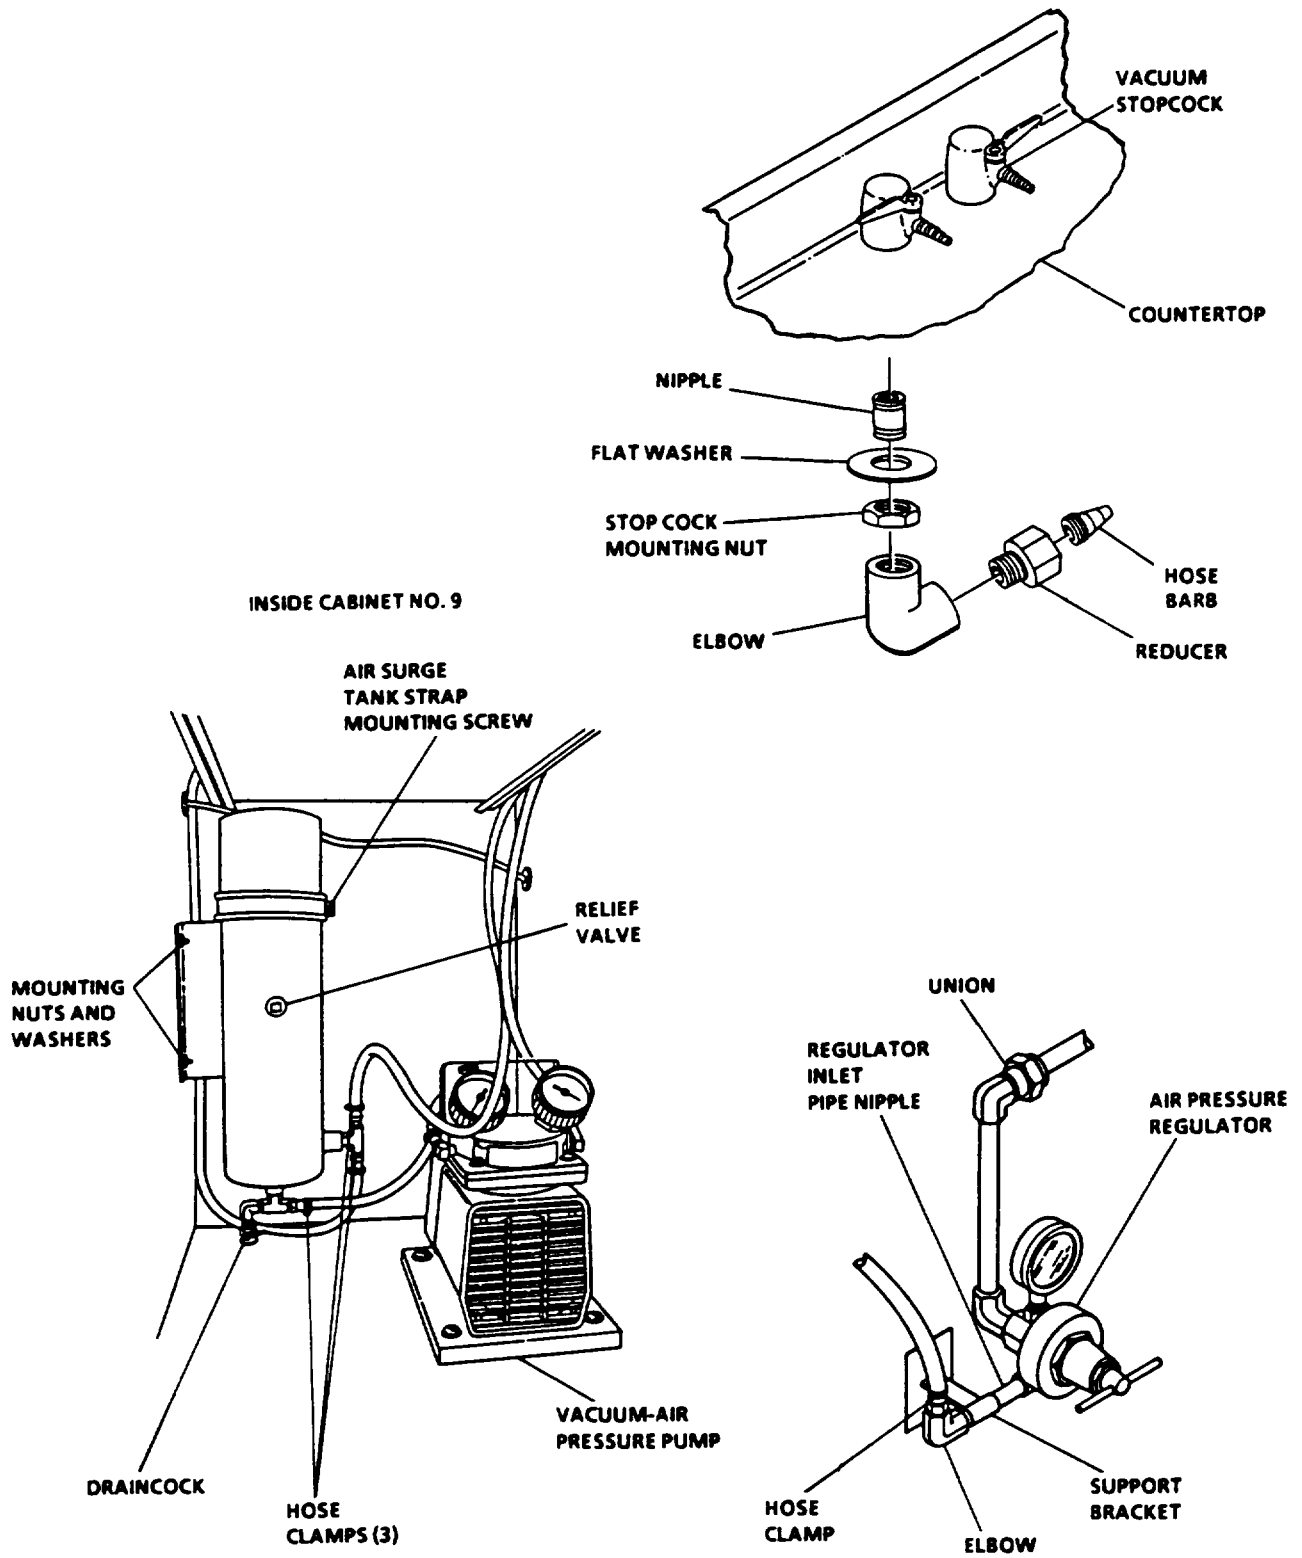

Figure 4-19. Vacuum-Air Pressure System
3. Remove stopcock assembly. See figure 4-19.
1. Install air surge tank. See figure 4-19.
2. Install stopcock assembly. See figure 4-19.